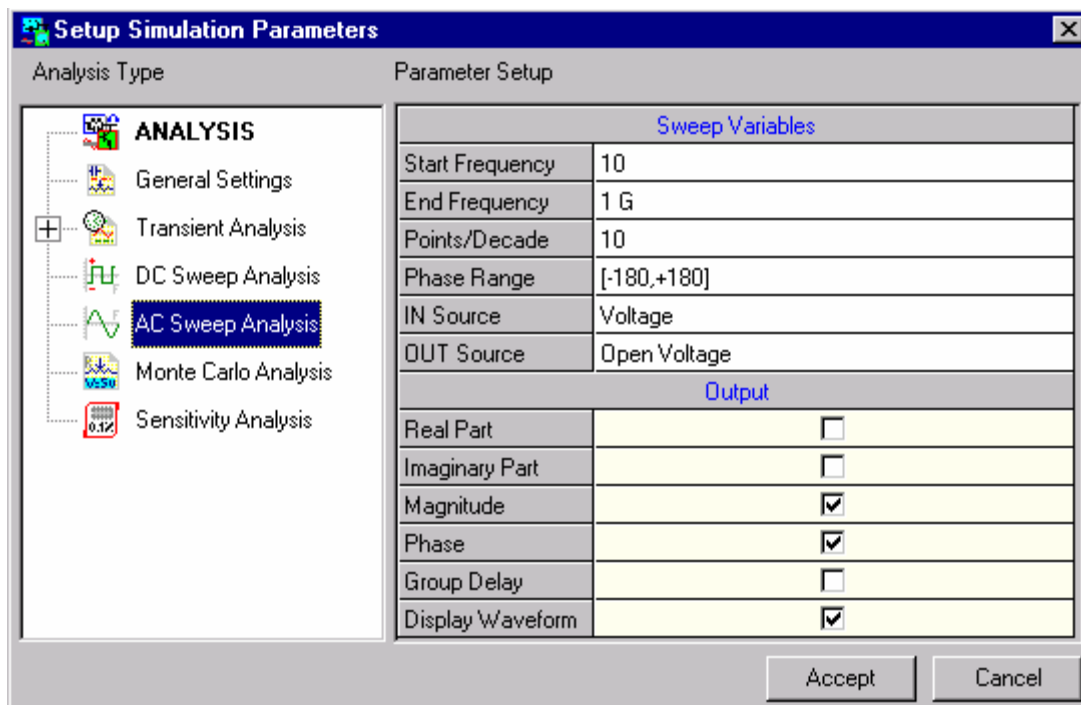

Fig. 6.16
5. We will now have to define the frequency sweep parameters. Click Analysis in the main menu. A window Setup Simulation Parameters opens with the option Analysis being highlighted on the left side of the window by default. Set the parameters by selecting GENERAL SETTINGS from the tree view on the left side of the window. Now, select the AC Sweep Analysis option (Refer Fig. 6-16).